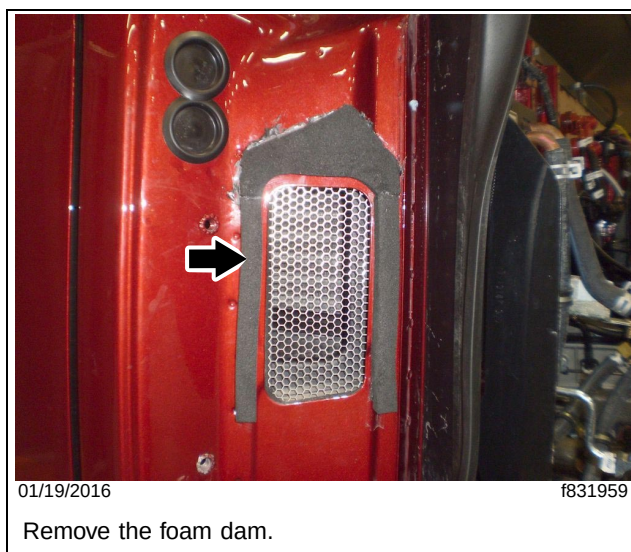

Fig. 2, Removing the Foam Dam
5. Remove and discard the foam dam around the HVAC fresh air intake opening. See **Fig. 2**.